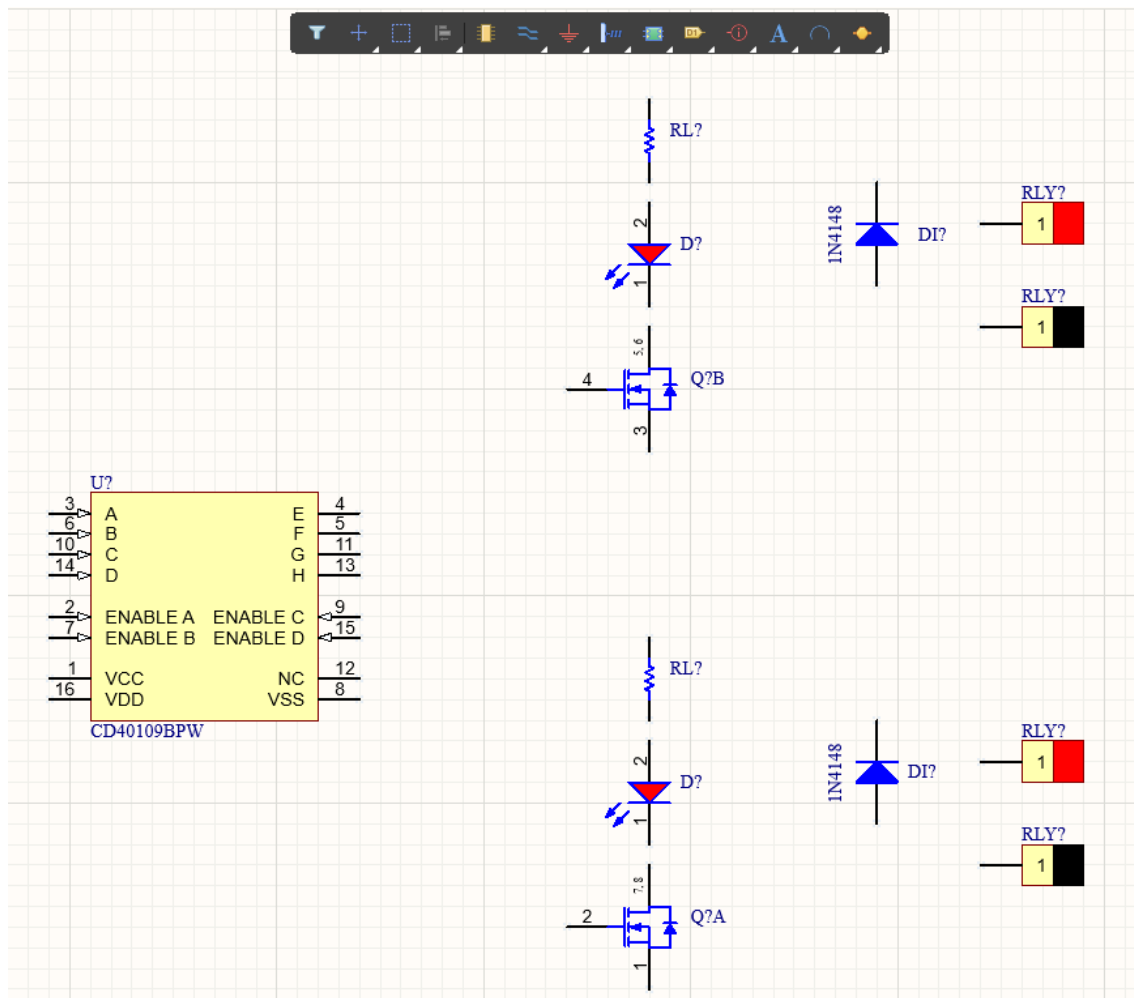

Figure 17. Relay_IO schematic symbol placement
31. Search and place the remaining components for the `Relay_IO.SchDoc`. Refer to Figure 17 to reference the component placement.